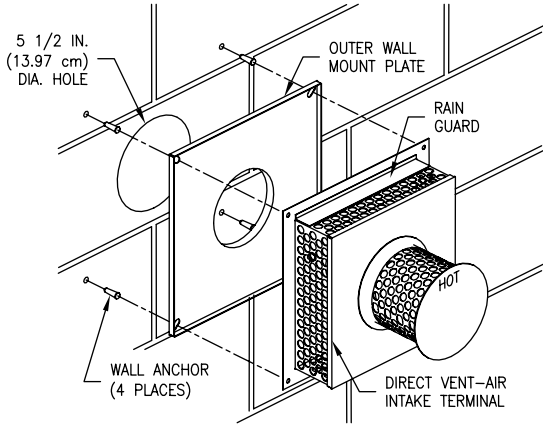

Figure 12
2. From outside the building, position the outer wall mount plate and direct vent-air intake terminal over the center of the opening. Mark the mounting screw hole locations. With a 3/16 inch diameter drill bit (not supplied), drill holes for the wall anchors (supplied). Install the wall anchors but DO NOT affix the outer wall mount plate and direct vent-air intake terminal to the wall at this time. (See Figure 12). Note: Certain construction of walls may require the use of a different type of wall anchoring means than supplied. DO NOT modify the direct vent-air intake terminal or outer wall mount plate.